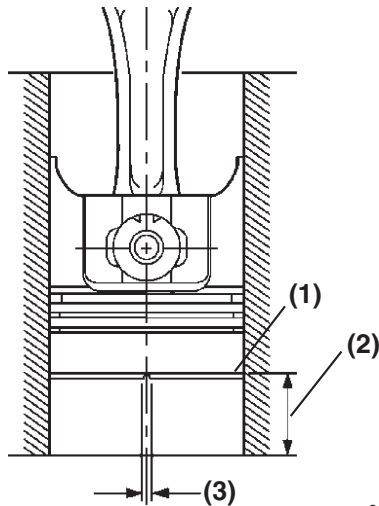

Figure 6-118
10. To measure piston ring end gap, insert each compression piston ring (**Figure 6-118, (1)**), one at a time, into the cylinder. Use a piston with the piston rings removed to slide the ring into the cylinder bore until it is approximately 1.18 in. (30 mm) (**Figure 6-118, (2)**) from the bottom of the bore. Remove the piston. Measure the end gap (**Figure 6-118, (3)**) of each piston ring. Record the measurements. See *Piston Ring* on page 6-18 for specifications.